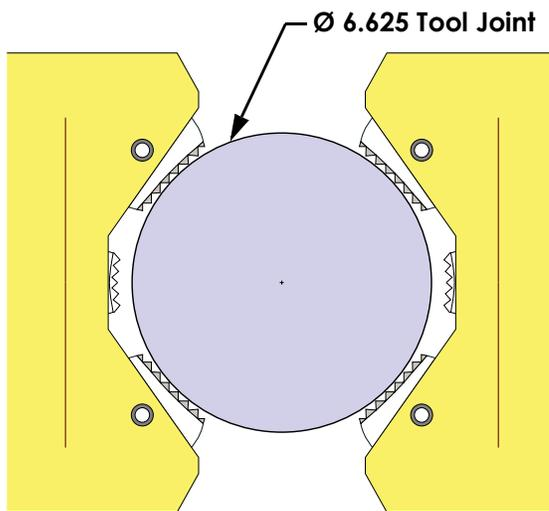
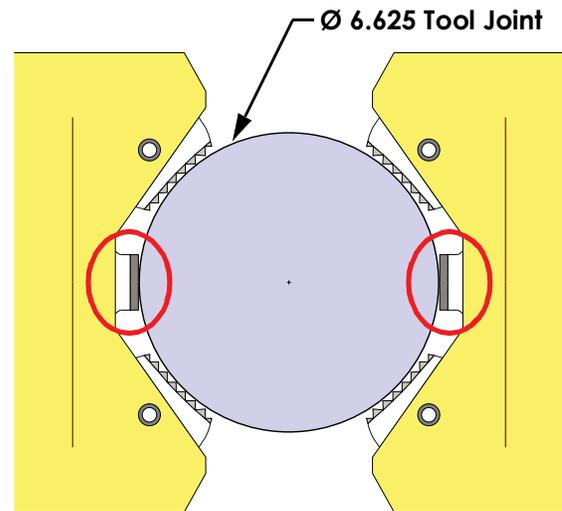

Figure 3: With Standard Center Dies
Figure 4: With Extended Center Dies
The standard center die is recommended to be used on all tool joints (TJ) with outer diameters (OD) less than 6-5/8". See Table 2 on page 3 and Figure 3 and Figure 4 on page 3.